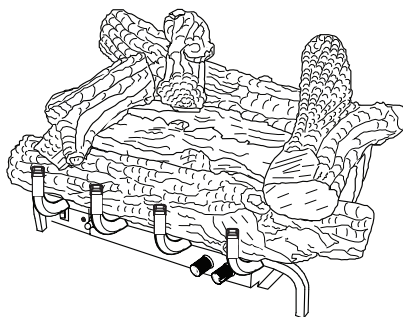

Figure 30 - Final assembly
7. Final assembly is shown in Figure 30.